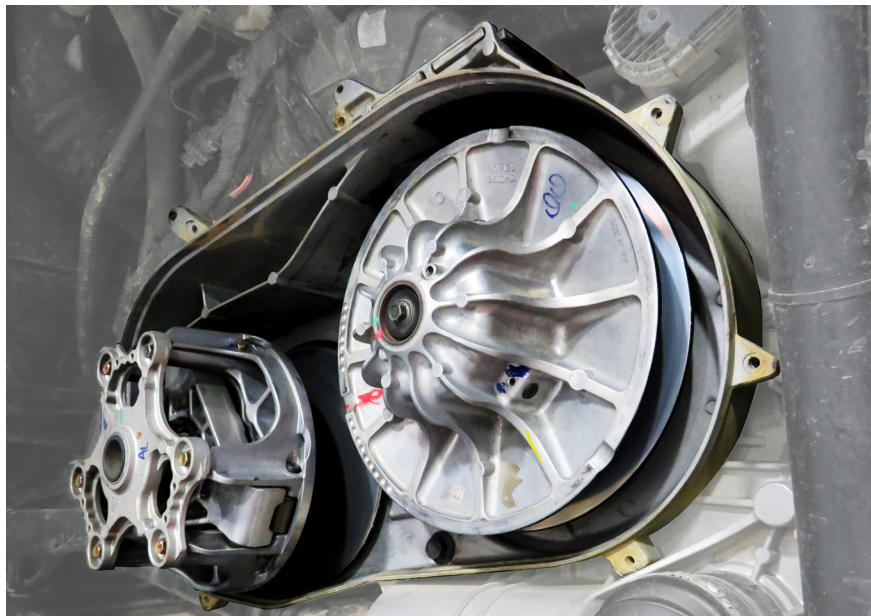

Fig.6
5. Now take the Belt off and set aside. **Fig.6.** shows belt removed.